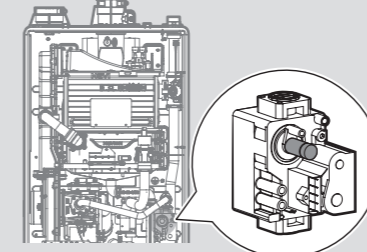

Figure 8. Set Screw Location
- c. Activate multiple zones and set the boiler to operate at 1-stage MIN mode. Measure the CO₂ value at low fire. If the CO₂ value is not within 0.5% of the value listed in Table 2, the gas valve set screw will need to be adjusted. If adjustment is necessary, locate the set screw as shown in Figure 8. Using a ⁵/₃₂ in or 4 mm Allen wrench, turn the set screw no more than 1/4 turn clockwise to raise or counterclockwise to lower the CO₂ value.